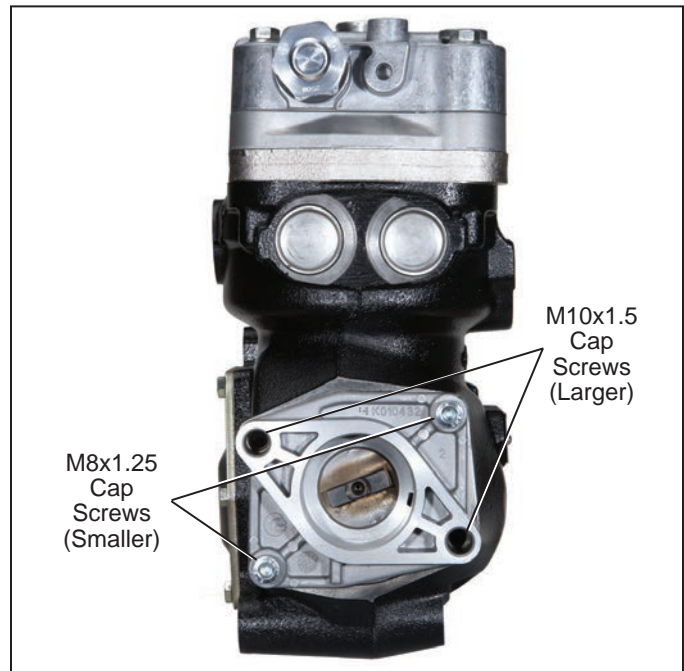

FIGURE 9 - REAR END COVER ATTACHMENT BOLTS
1. Note: There are two cap screws used to retain the end cover to the crankcase. There are two longer cap screws (not shown in Figure 9) that are used to retain the auxiliary drive unit (e.g. hydraulic pump) via the end cover and torqued into the crankcase. If the auxiliary drive unit has already been removed, these two cap screws are no longer present on the end cover. Refer to Figure 8 to see location of the cap screws in the end cover.
1. Install the o-ring (10) on the rear end cover.
3. Install the two end cover cap screws. Refer to Figure 9 to ensure that the two cap screws are installed in the proper crankcase bolt holes. "Snug" the screws, then tighten to between 195 and 212 in-lbs (22-24 Nm).